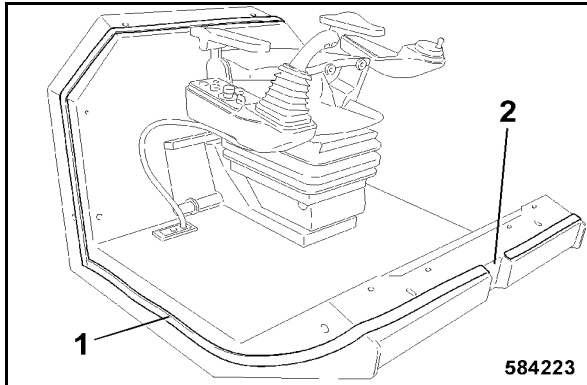

Fig. 203
- Stick the sealing tape 1 (Fig. 203) all around the operator's stand.
- Do not run the sealing tape across the front recess in the operator's stand (2), since this is the air inlet for the cabin ventilation.